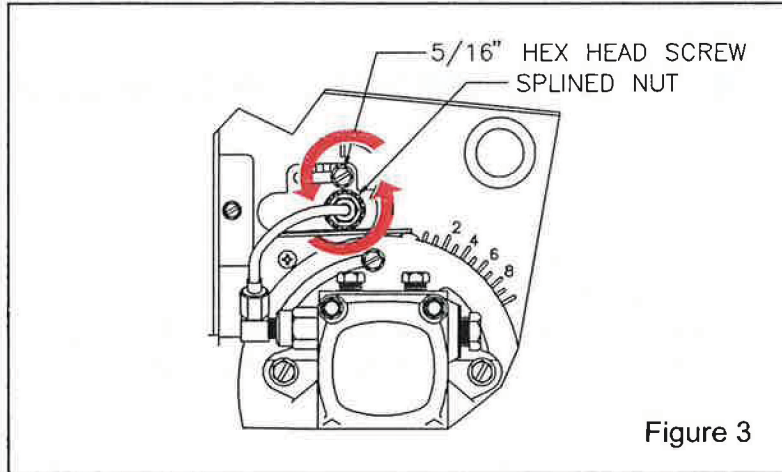

Figure 3
Step 2. Loosen the splined nut and the 5/16" hex head screw that holds the escutcheon plate in place. (See Figure 3.)
Step 4. Tighten the 5/16" hex head screw and the splined nut. The "Z" dimension of your L1 or L2 head is now properly adjusted. (See Figure 3.)